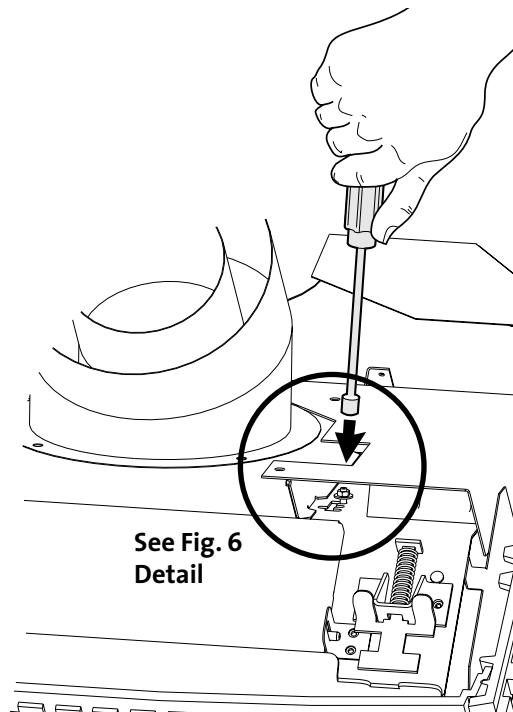

Figure 7. Use a nut driver to change the Exhaust Restrictor setting.
The Exhaust Restrictor is an adjustable shutter located at the top right side of the firebox. It is adjusted by moving a pivot pin into one of four positions. It is set in the FULLY OPEN (D) position at the factory. See Fig. 7. The four positions correlate to the termination zones (A,B,C,D) diagramed in figures 9-12. Consult these Vent Window diagrams on pages 10-11 to determine the setting you should use.